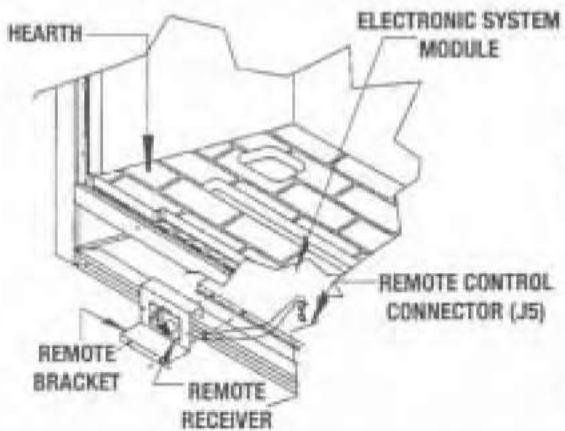

FIGURE 6-7 TRANSMITTER CONNECTION
1. Open the lower access grille and screw the remote bracket to the electronic service module. Refer to Figure 6-7.